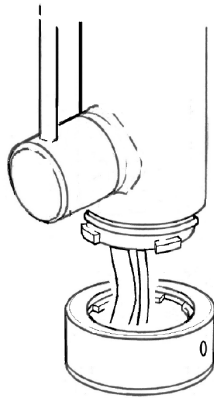

Fig.14a: Placing faucet on mounting socket
8. Place the water faucet body onto the mounting socket, in such a way that the locking cams on the lower faucet body line up with the apertures in the mounting console, as shown in figure 14a.